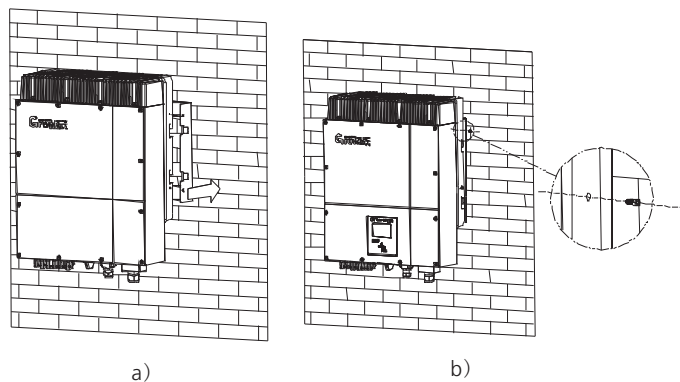

Fig 5.5
- Installed one M6*10 screw at each side of inverter to reliable fixed it on the wall. Please reference in Fig 5.5(b).